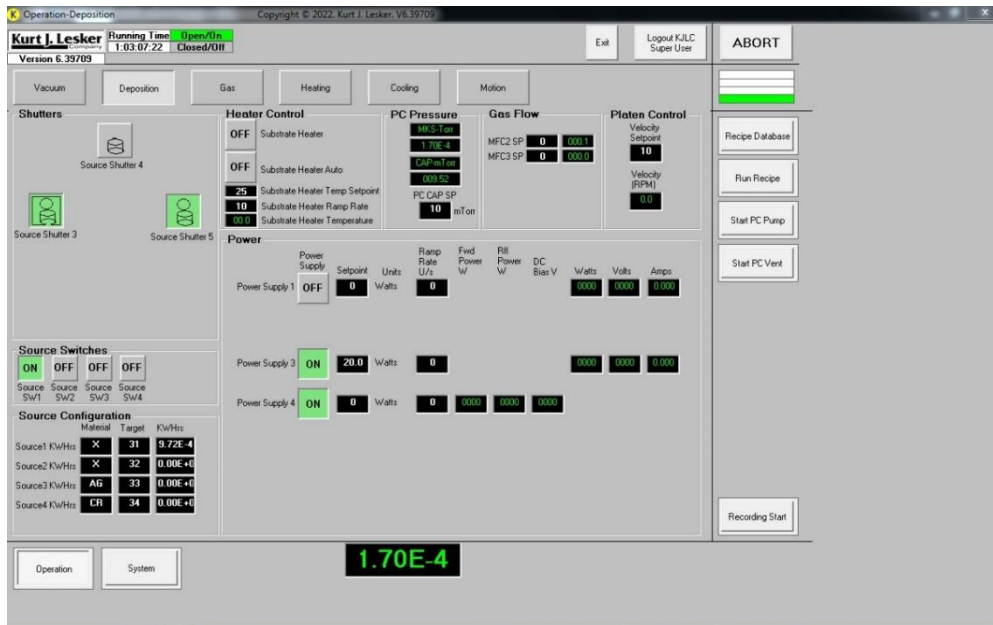

Figure 5 - AXXIS Deposition Tab Screen
6. Click the Deposition tab. See Figure 5.
6. Click on the Deposition tab. See Figure 5.
1. Click on the Deposition tab. See Figure 5. Press green Source Shutters on operating targets. Buttons should not then be green.